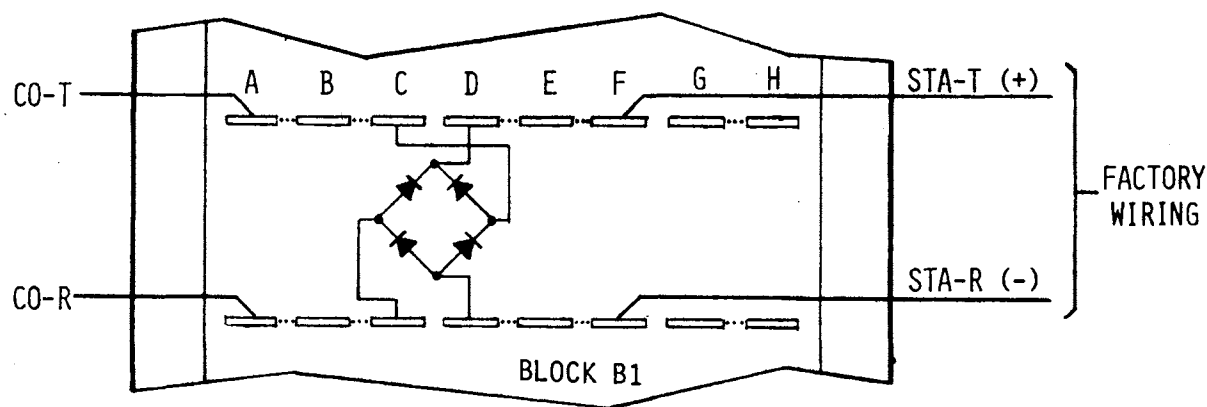

Figure 3 - Typical Diode Bridge Connection
4.17 Preliminary considerations: Since the E-100 key telephone is arranged for multi-line conferencing, the polarity of all station lines MUST be the same. If no interconnect device is used, and the CO/PBX provides reverse polarity answer supervision, a diode bridge must be added to terminal block B1 for each CO/PBX line as shown in Figure 3.